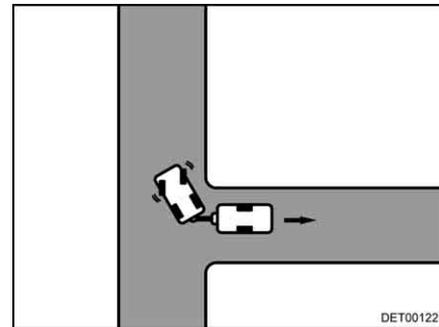

Fig. 17 Steer to the right
- Steer to the right and reverse with caution (Fig. 17).